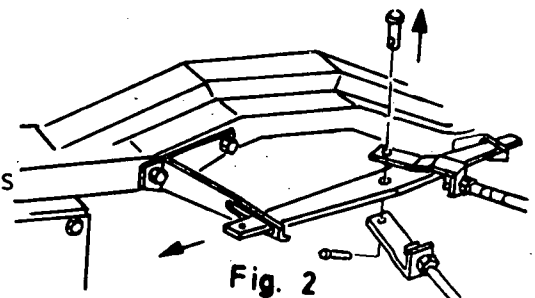

Fig. 2
- d) Remove the bolt which joins the operating cables to the relay lever and remove the latter (fig. 2).